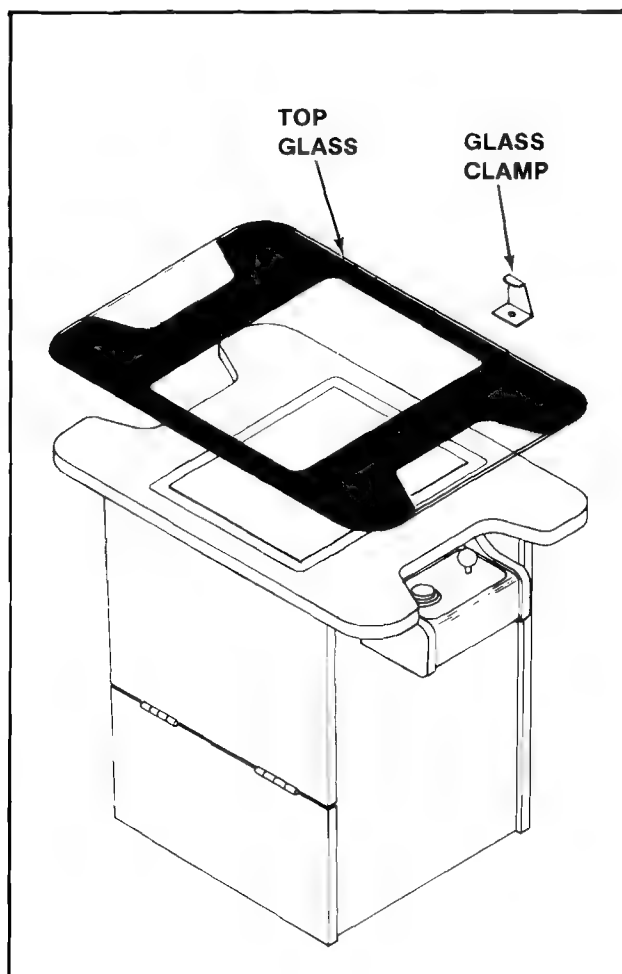

Figure 3-7 Removing the Top Glass & T.V. Bezel
3. COCKTAIL TABLE MODEL: See Figure 3-7.